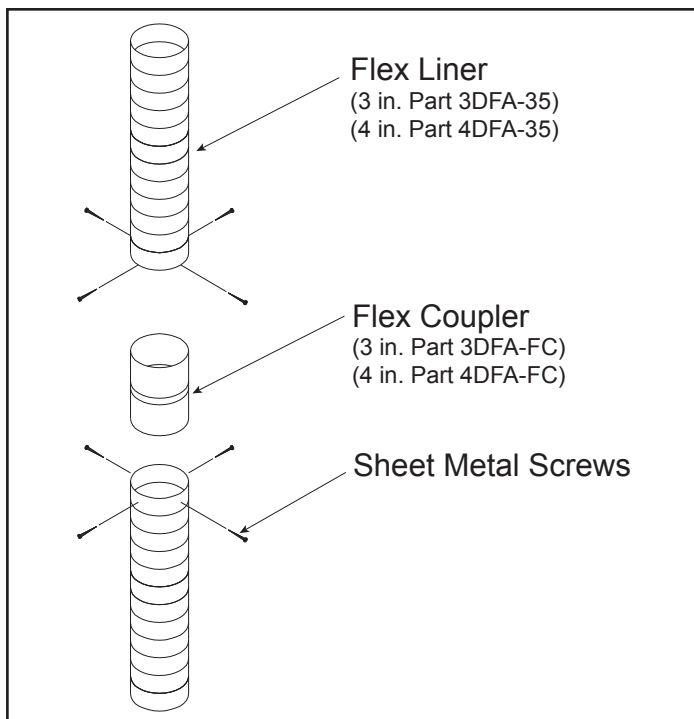

Figure 4.27
7. If additional lengths of flex liner are needed to span the chimney height, use a flex coupler to connect the pieces of flex liner together. Connect the flex to the coupler by using four sheet metal screws for each side. See Figure 4.27.